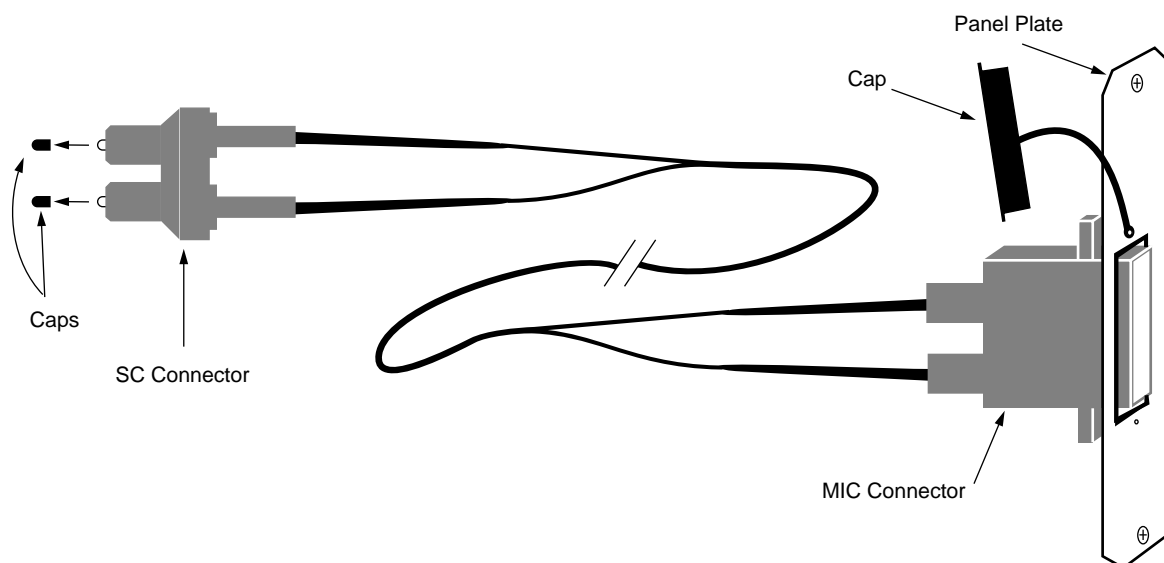

Figure 2-17 IRIS ATM Internal Cable Assembly
8. From the sheets of labels, remove a small-sized label with the identification created in the previous step. Attach the label to the outside of the ATM I/O panel plate that is attached to the internal cable assembly (illustrated in Figure 2-17).